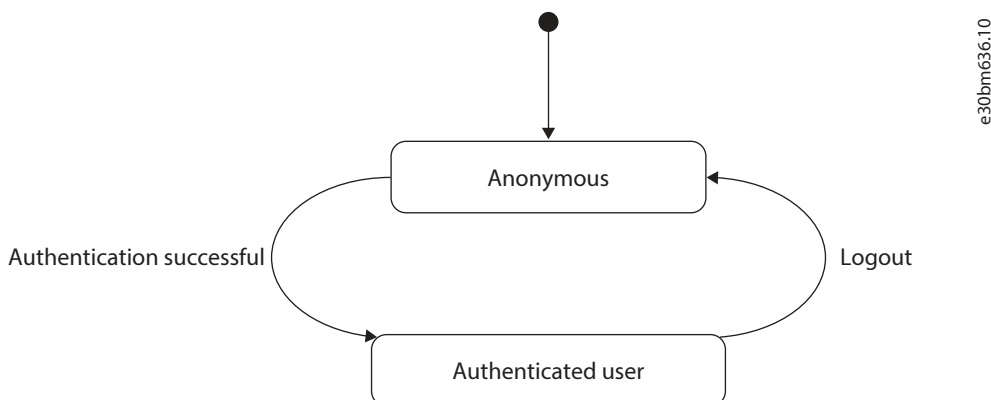

Figure 5: OPC UA User Types
- When the authentication is completed successfully, the user transitions from **Anonymous** to **AuthenticatedUser** as shown in Figure 5. All users with the type AuthenticatedUser are allowed to modify their own password.